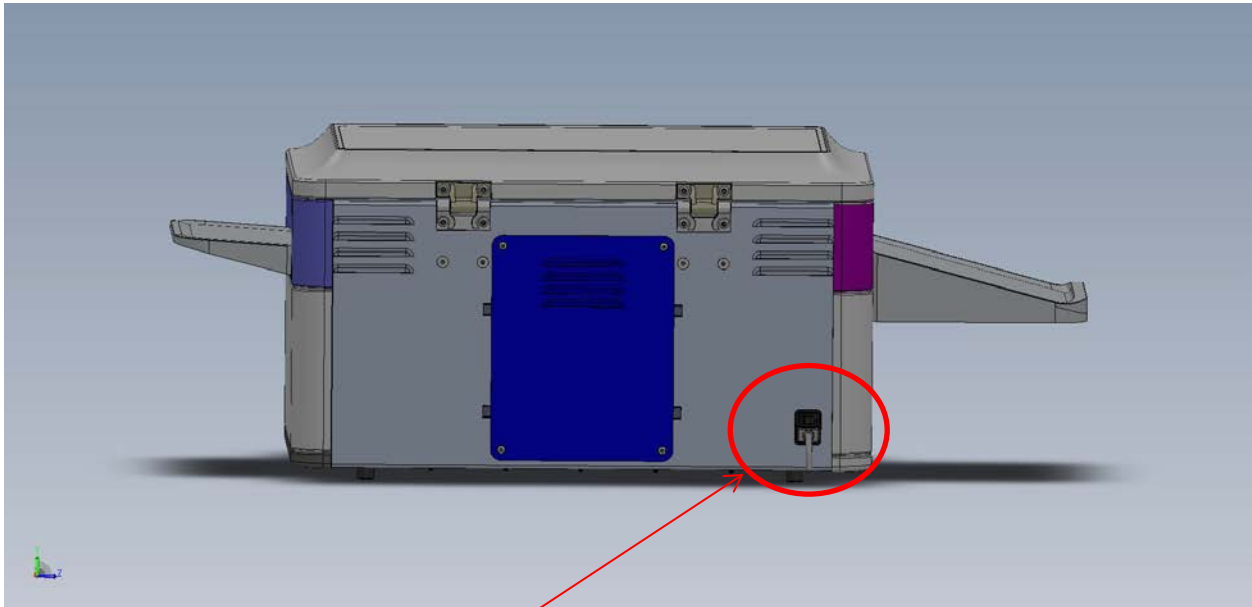

FIGURE 1.ON/OFF SWITCH
Using the ON/OFF switch turn the system on as shown in figure 1.
- c) The ultrasonic distance sensor of ALUVIS will detect the device and turn on the internal mechanisms of the roller based conveyor and the UV-C lamps. The status indicator (figure 1) will turn purple indicating that the UV-C lamps are turned on.
- a) Using the ON/OFF switch, turn the system off as shown in figure 1.